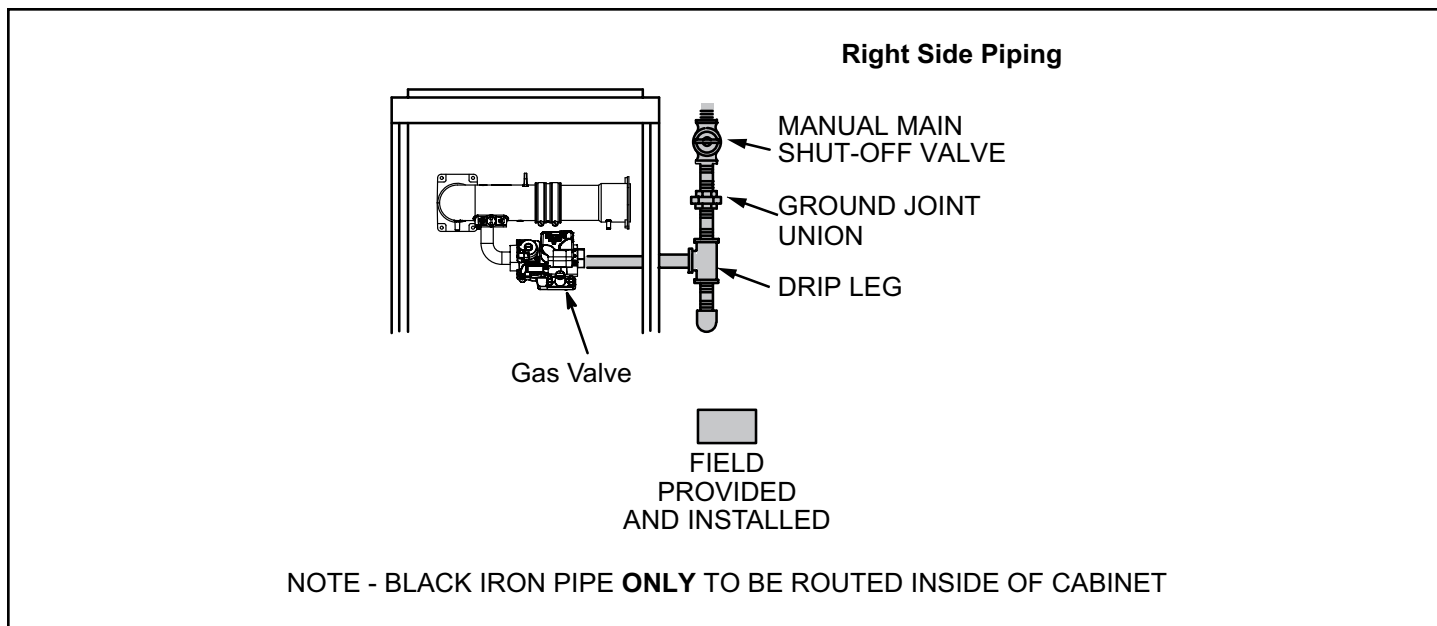
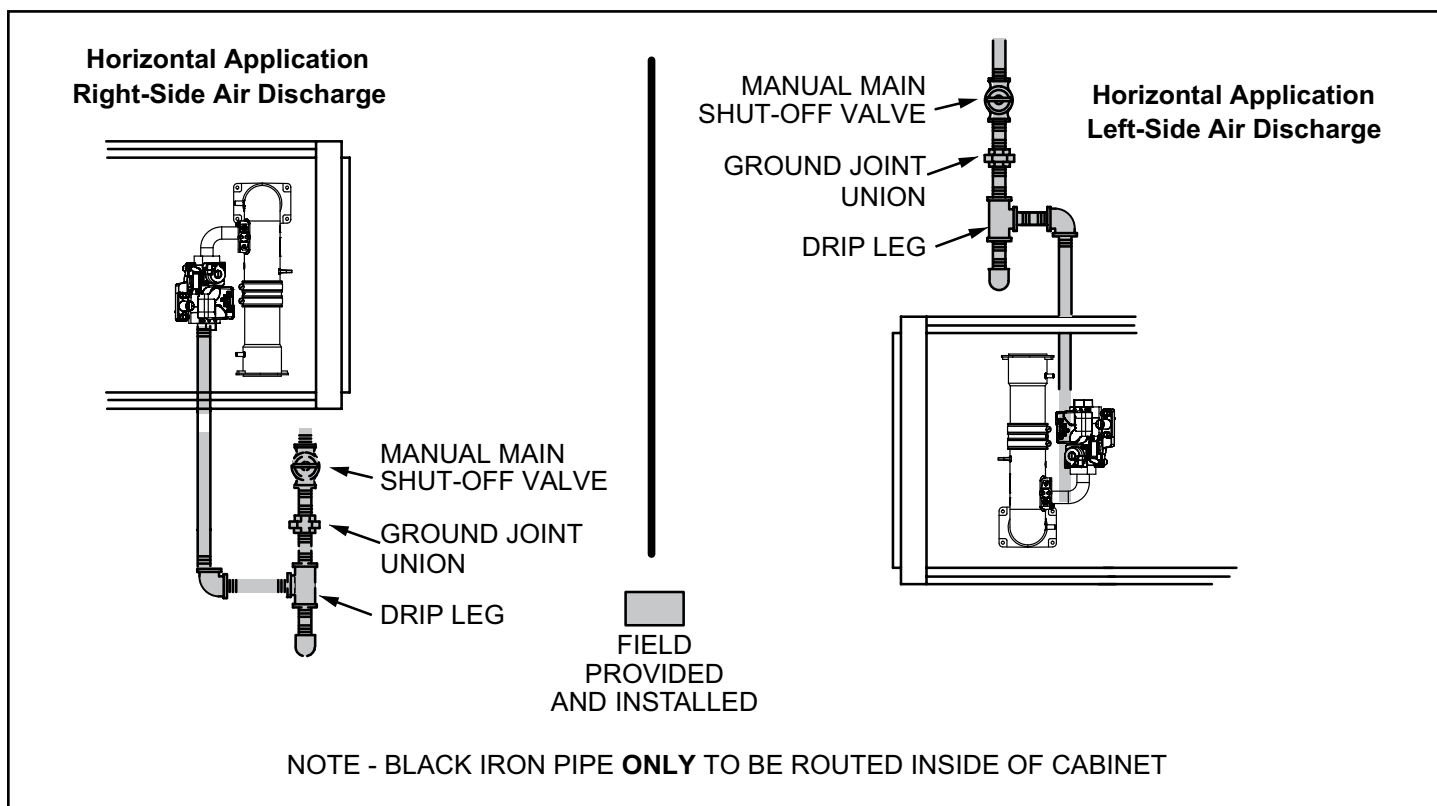

Figure 57. Possible Gas Piping Configurations - Upflow Applications
Figure 58. Possible Gas Piping Configurations - Horizontal Applications
1. Gas piping may be routed into the unit through the right-hand side only. Supply piping enters into the gas valve from the side of the valve as shown in Figure 57. Connect the gas supply piping into the gas valve. The maximum torque is 800 in lbs and minimum torque is 350 in lbs when attaching the gas piping to the gas valve.
3. Gas piping must not run in or through air ducts, clothes chutes, chimneys or gas vents, dumb waiters or elevator shafts. Center gas line through piping hole. Gas line should not touch side of unit. See Figure 57 and Figure 58.